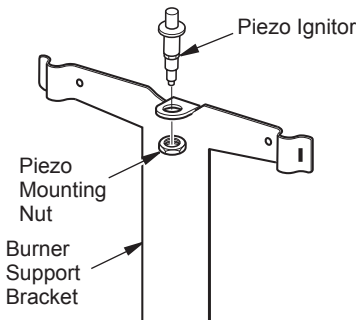

Figure 1 - Installing Piezo Ignitor
- Insert the piezo ignitor into the bracket on the burner support bracket as shown in Figure 1. Tighten the piezo mounting nut. Do not over tighten the nut.